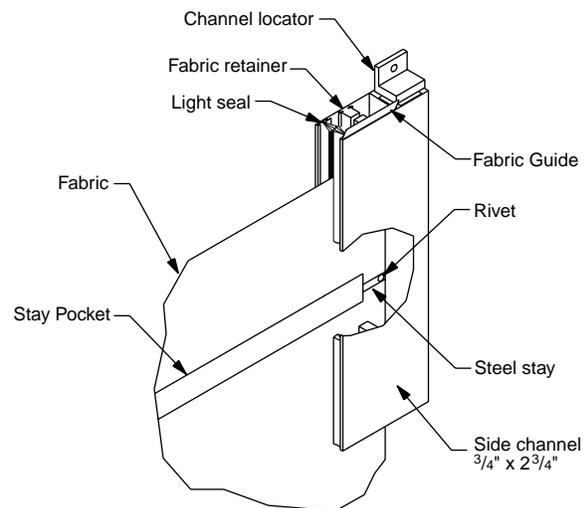

Figure 10
- ⑩ Check shade fabric. With fabric and slat all the way up, pull the slat bar forward, out of the head box and in front of the side channels. Activate the operator (crank, spring roller, bead clutch, or electric) to completely lower the shade fabric. Repeat several times. With the shade fabric hanging in front of the side channels, check fabric hang. The shade fabric should be hanging straight and equally spaced between the outside edges of the side channels. If the fabric is not hanging properly, adjust the head box by raising or lowering one end of the head box to bring fabric into proper alignment. Operate the shade again to re-check fabric position. If functioning properly, run the shade up to fully open position and re-insert slat bar and fabric into side channels (see Fig. 10). If misalignment still occurs, correct by sticking a small (approximately 2") piece of cloth tape directly to the roller to affect the direction the fabric runs. Fabric running off to the left may be corrected by placing the tape on the right end of the roller beneath the fabric. This, in effect, makes that end of the roller larger, causing it to take up more fabric. If this is a non-electric operated shade, proceed to step 12.